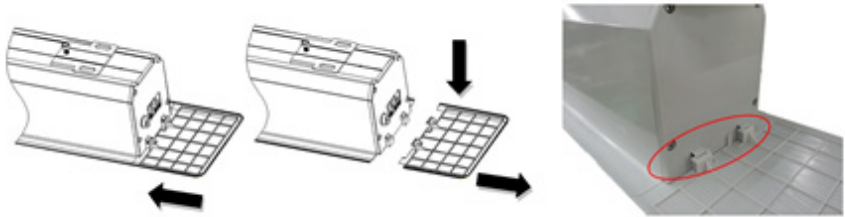

Figure 6
- Finally attach the inspection covers (B) to the sides of the housing. To dismantle the screen, pull the covers down and away from the housing (Fig 6).